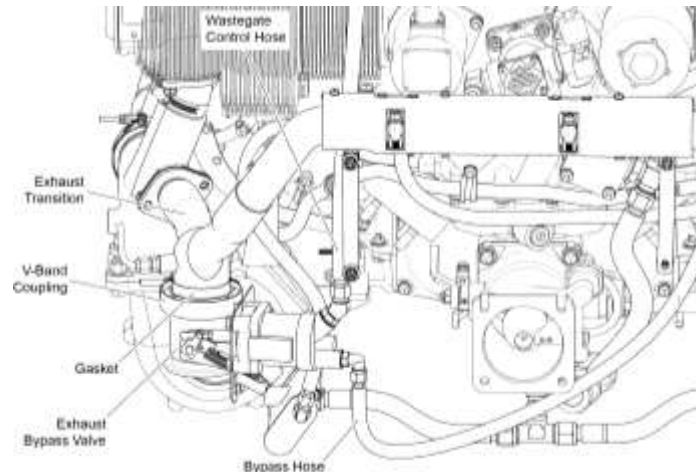

Figure 7
- (1) Disconnect the bypass hose from the exhaust bypass valve (Figure 7).
- (2) Disconnect the wastegate control hose from the exhaust bypass valve.
- (3) Remove the V-band coupling and gasket that attaches the exhaust bypass valve to the exhaust transition. Discard the gasket.
- (4) Remove the exhaust bypass valve.
- (1) Attach the exhaust bypass valve to the exhaust transition with the V-band coupling and new gasket (Figure 7).
- (2) Torque the V-band coupling per the Standard Torque Tables in the latest revision of the *Service Table of Limits - SSP-1776*.
- (3) Connect the wastegate control hose to the exhaust bypass valve. Torque the wastegate control hose fitting per the Standard Torque Tables in the latest revision of the *Service Table of Limits - SSP-1776*.
- (4) Connect the bypass hose to the exhaust bypass valve. Torque the bypass hose fitting per the Standard Torque Tables in the latest revision of the *Service Table of Limits - SSP-1776*.